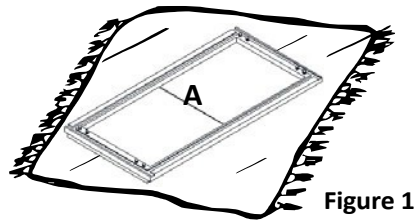

Figure 1
1. Place the face frame (A) face down on a flat soft working surface to ensure that the face is not scratched or damaged (Figure 1).